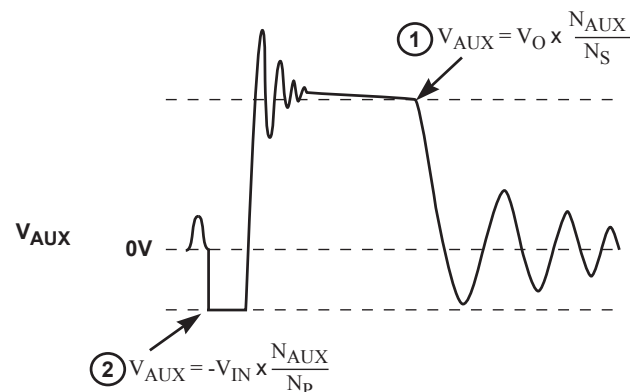

Figure 9.3 : Auxiliary Voltage Waveforms
and reflects the output voltage as shown in Figure 9.3.
After soft-start has been completed, the default output voltage should be 5V and the actual output voltage is related to the external V_{SENSE} voltage divider network and transformer secondary-to-auxiliary winding turns ratio. The digital control block measures the output conditions. It determines the output power levels and adjusts the control system according to a light load or a heavy load. If this is in the normal range, the device operates in the Constant Voltage (CV) mode, and changes the pulse width (t_{ON}) and off time (t_{OFF}) in order to meet the output voltage regulation requirements. At the steady-state CV operation of the 5V setting, the V_{SENSE} pin voltage at the instant corresponding to point 1 (as indicated in Figure 9.3) is regulated to $V_{SENSE_5V(NOM)}$ in most conditions, e.g. 0.930V(typical).